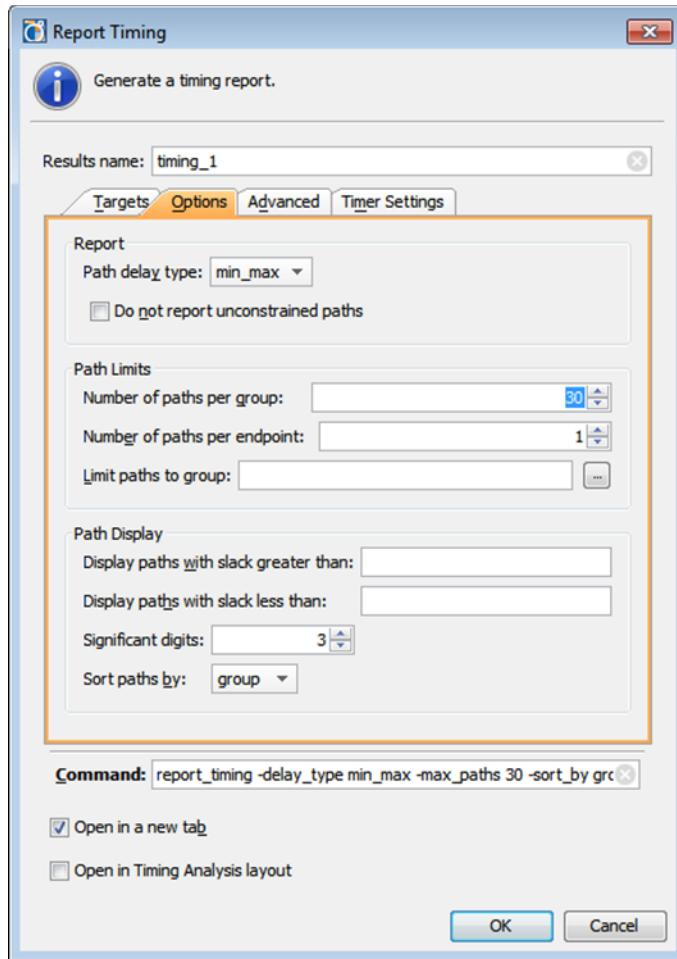

Figure 18: Report Timing Options
2. Select the Options tab, shown in FIGURE 18.